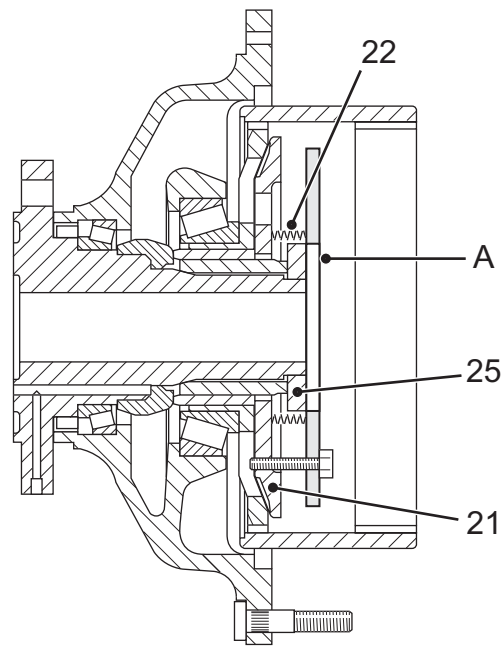

Fig 5.
- 8 Install the spring retainer (see ⇒ Fig 5. \(□ F-12\) in ⇒ Dismantling \(□ F-12\)) and compress springs **4-22** (3 off) with relevant cup **4-23**, spring clips and pins with the pressure plate **4-21**.